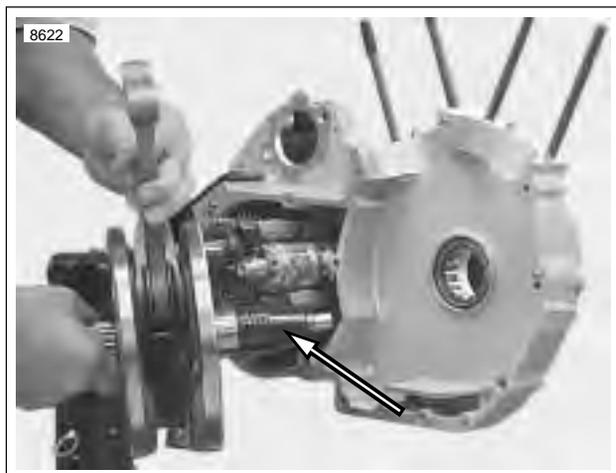

Figure 6-86. Installing Flywheel Assembly Using Crankshaft Guide Tool (Part No. HD-42326)
1. See Figure 6-86. Install the flywheel assembly into the left crankcase half using CRANKSHAFT GUIDE TOOL Part No. HD-42326.